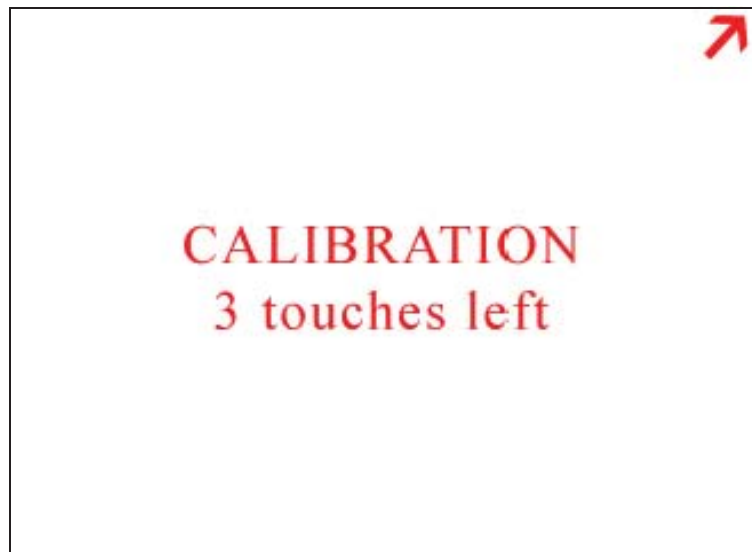

Figure 6-49 Alignment Screen 2
- At the next screen, touch the arrow displayed in the upper right corner. This needs to be done a total of three times before continuing to the next alignment. See Figure 6-49.